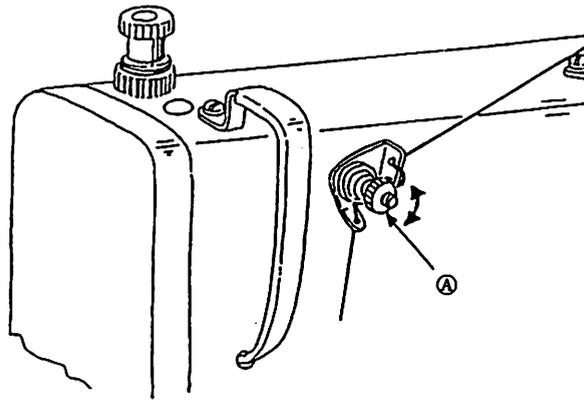

Fig. 11.16
- (1) Use a hook for thread trimmer application, having bobbin thread guide slit (A), as shown in Fig. 11.16.